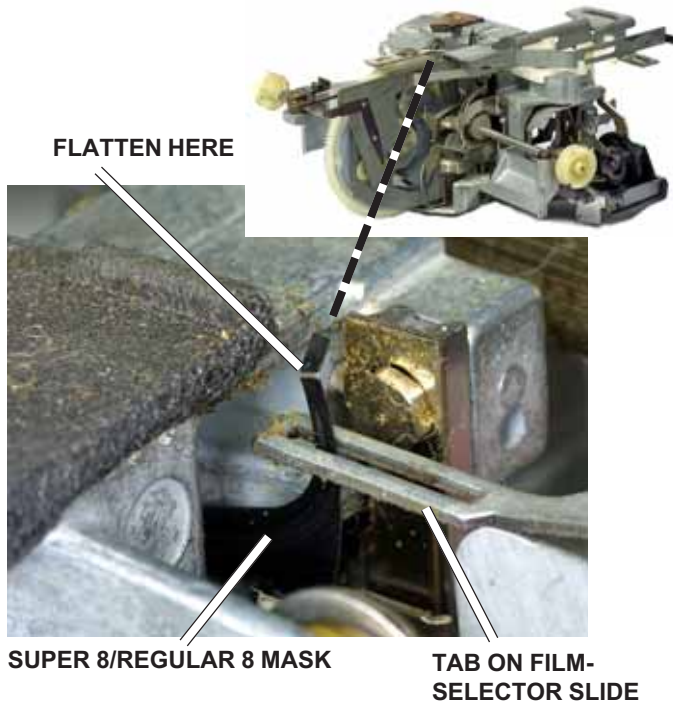

FIG. D40 Coupling to the super-8/regular-8 mask.
3. Straighten the arm of the super 8/regular 8 mask, Fig. D40, so it will pass through the slot in the tab as you lift out the drive-cam assembly.